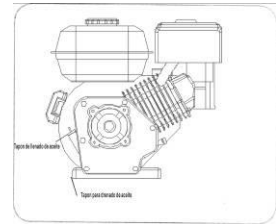

Figure 28
2. Unscrew oil fill cap from oil filler tube and wipe dipstick clean. See Figure 28.
1. Locate the oil drain plug, See figure 28.
3. Clean area around oil drain plug, see Figure 28.